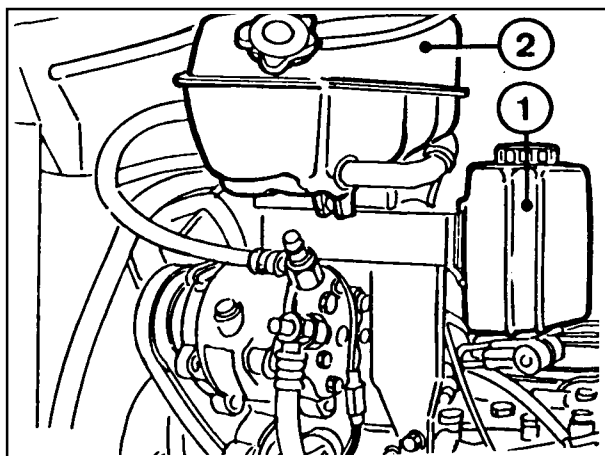

Fig. 3-32
Reservoir for windscreen wiper-washer fluid (1 - Fig. 3-32) and engine coolant recovery bowl (2).